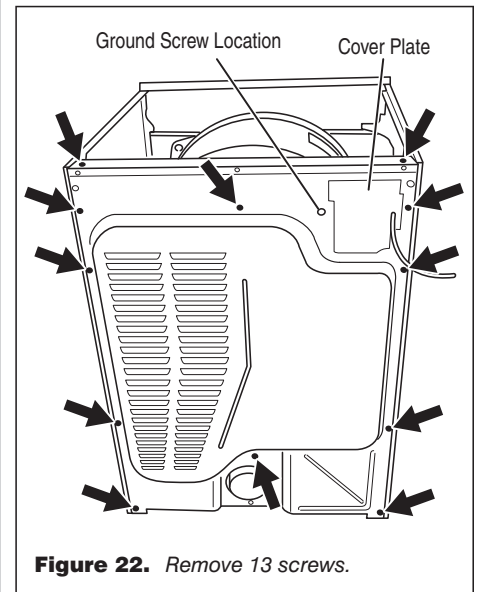

Figure 22. Remove 13 screws.
4. Remove two screws on the back panel's top edge, which connect the back panel to the side panels' top edges. See figure 22.